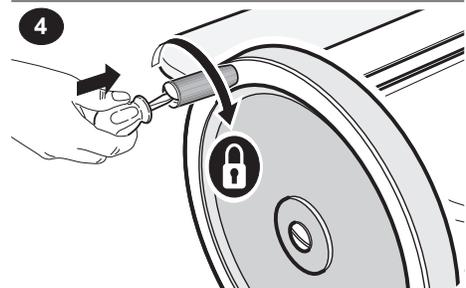

Figure 10-3
10. Insert handle (6) on pin (35) (Figure 10-3).
11. Tighten the handle (6) on flywheel (7) with screw (37).